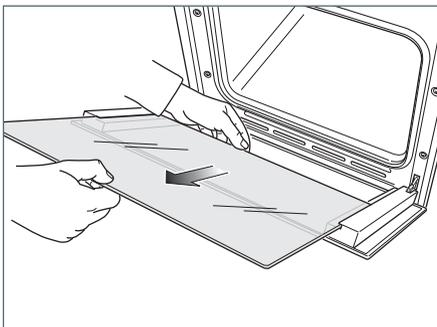

Fig.59e
- Gently pull out the inner pane of glass (Fig. 59e).